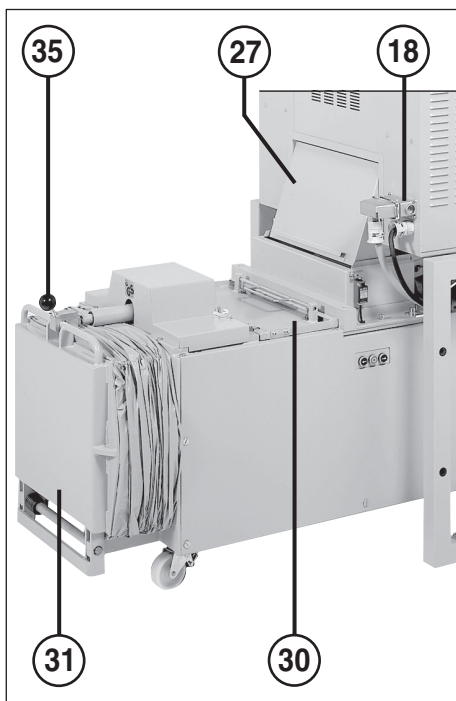

fig. 2
If the space above the rear conveyor belt is completely filled with paper due to a jam of the inlet opening of the baler, the unit switches itself off due to the raised outlet flap (27) (fig. 2).